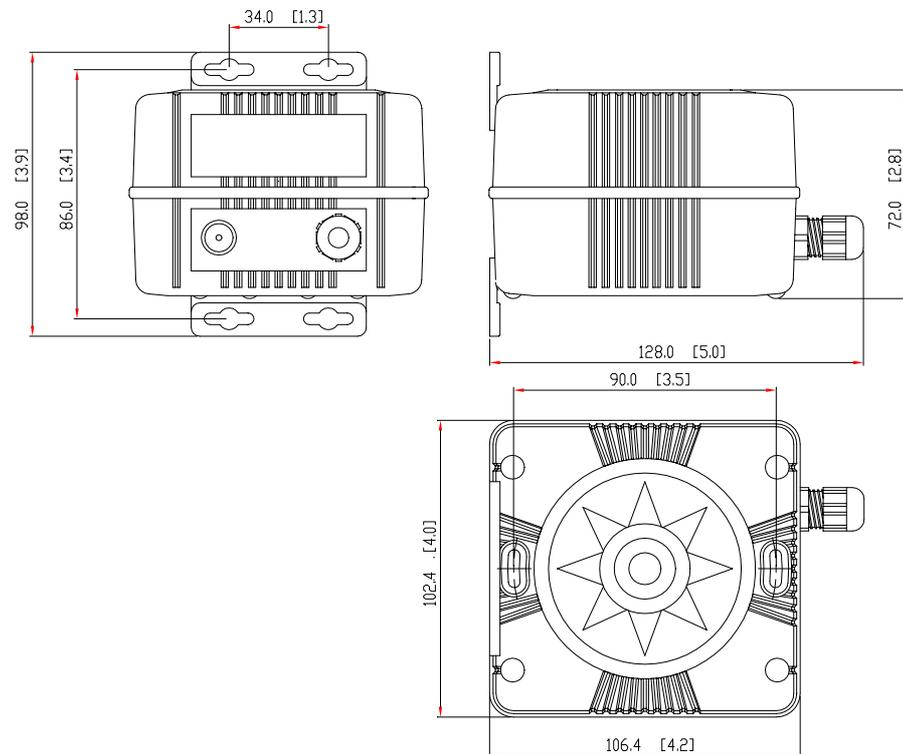

Figure 3-4 RFC35 Fluxgate Compass – Dimensions
- Dimensions:.....See Figure 3-4
| Dimensions: | See Figure 3-4 |